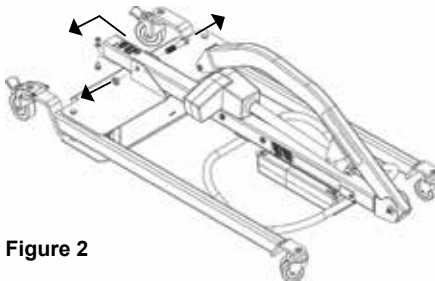

Figure 2
2. Remove the 5/8" bolt that connects the mast (in its shipping position) to the base. Remove the 3/8" carriage bolt as well (Figure 2). Do not discard these nuts and bolts as they are needed for assembly.